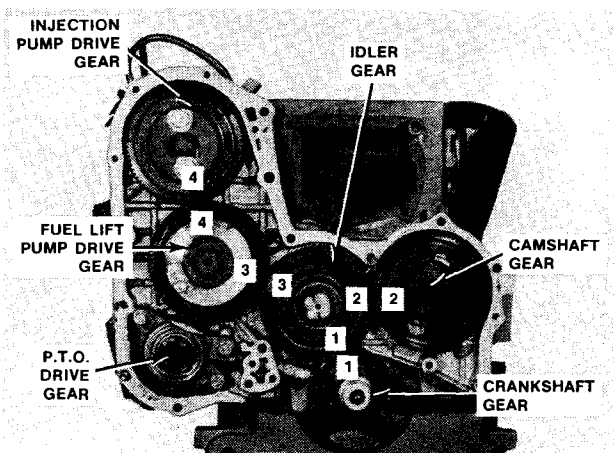

FIG. 42 Phasing Timing Gears (SSD-327 and SSD-437)
- c. Install the fuel lift pump drive gear and shaft. Match assembly number 4 on the lift pump drive gear with number 4 on the injection pump drive gear (Fig. 42). Install snap ring on the lift pump drive gear shaft.
- e. Install the P.T.O. drive gear in mesh with the lift pump drive gear and secure to the timing gear case (Fig. 42). Torque attaching bolts to specification.
- f. Install the thrust washers and idler gear on the idler gear shaft. Align number 3 on the idler gear with number 3 on the lift pump drive gear; number 2 on the idler gear with number 2 on the camshaft gear; and number 1 on the idler gear with number 1 on the crankshaft gear. With teeth in mesh, slide the idler gear fully onto its shaft and install the snap ring (Fig. 42).